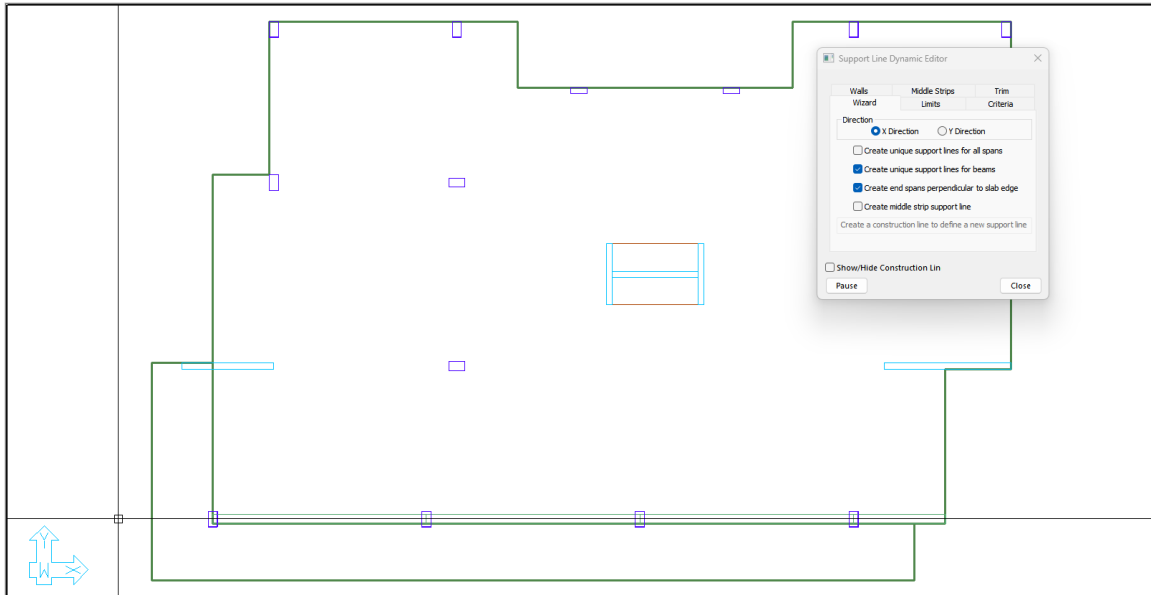

FIGURE 9-6
- Position your mouse to be in line with the lower column line, but outside of the slab region, to the left of the slab as shown in **FIGURE 9-6**.